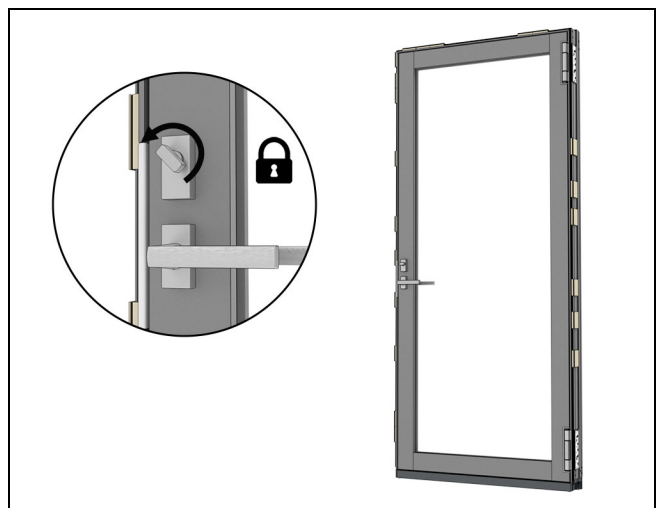

Figure 45
1. **On Swinging Doors:** close the door completely until the latch engages the strike. Turn the thumb turn to lock. Once locked, the locking sensor will activate and signal a closed and locked status. See Figure 45.